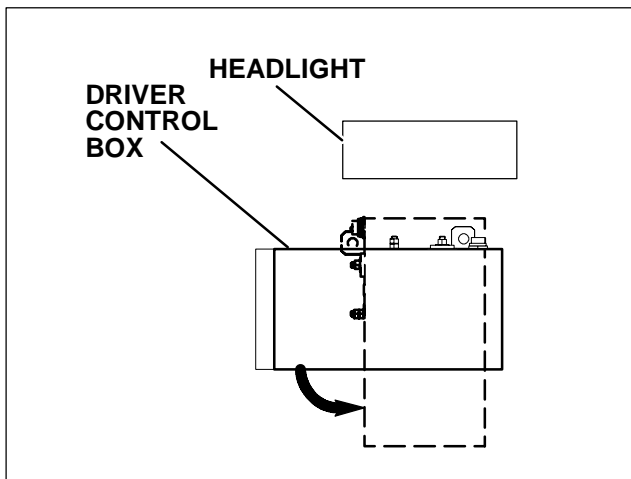

Figure 4-10. Removing Driver Control Box
The driver control box is located behind the return air panel below the passenger side dash and under the right headlight. (See Figure 4-10.) Remove the return air panel by removing the eight screws holding the panel in place. Remove and service the control box by performing the following procedure:
- Rotate box counterclockwise 90 degrees as shown in Figure 4-10 and carefully lift the box out.